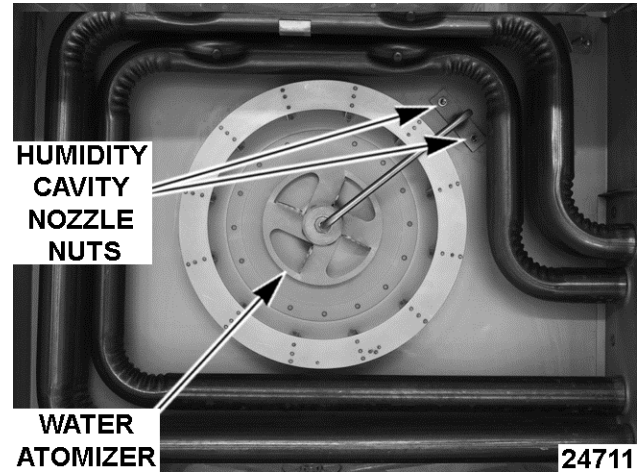

Fig. 87
7. Remove humidity cavity nozzle nuts (Fig. 87) to rotate nozzle for clearance.